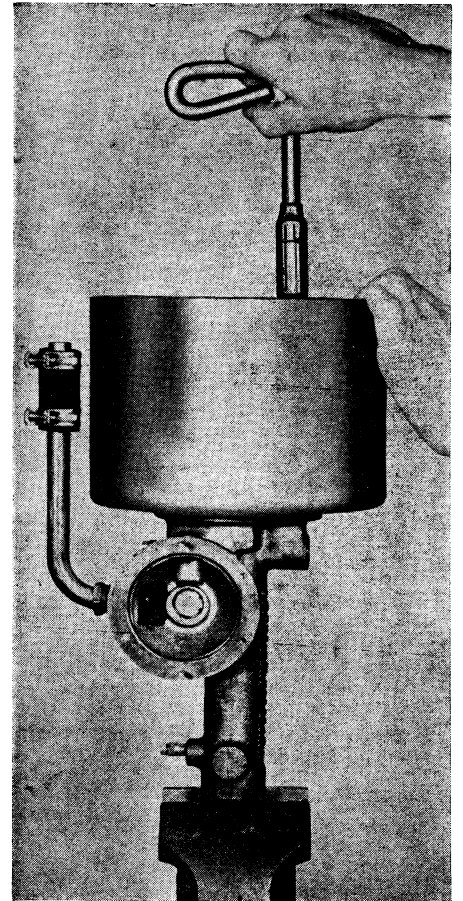

Fig. 34 Lower shell being removed
9. Remove center plate, piston and lower shell, Fig. 34.